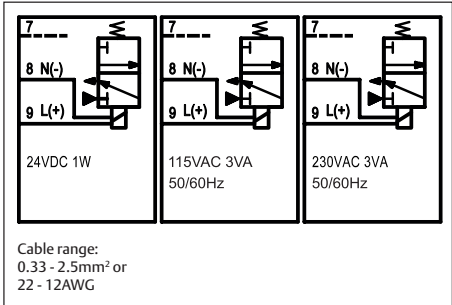

Fig. 4.5 Default Pilot valve wiring connections
4. For normal operation, make the electrical connections as shown in Figure 4.5.